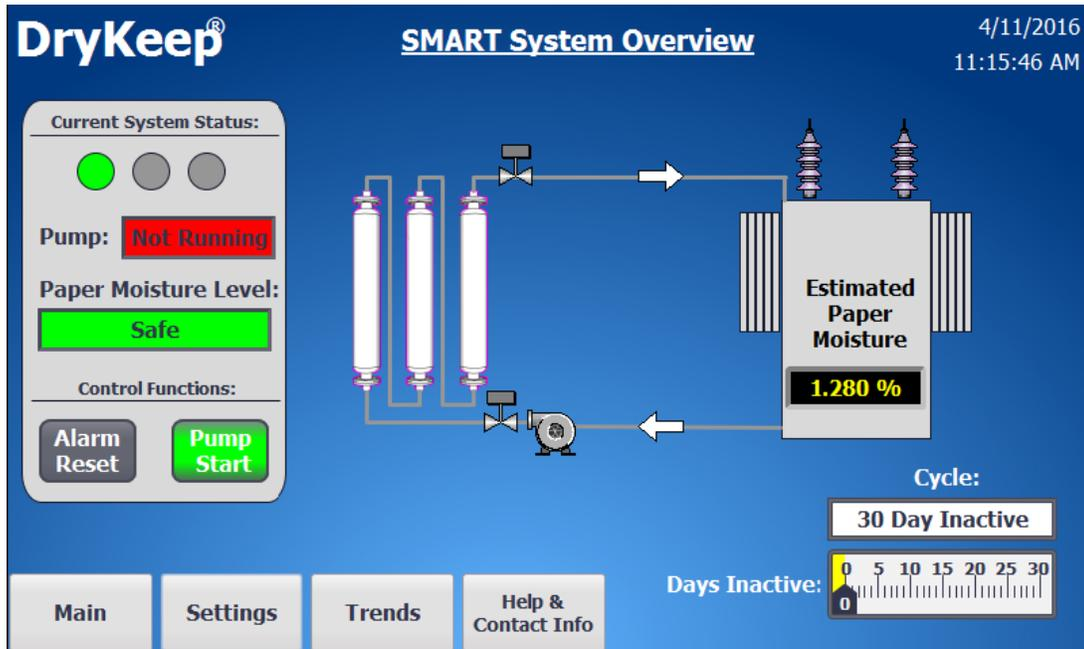

Figure 12: Main screen in 30 Day Inactive cycle
- 15) If the controller confirms during the Safe Level Pending cycle that the optimal percentage of moisture in the paper has been achieved, the controller will place the system into the “30 Day Inactive” cycle. The system pump will shut down for 30 days to prevent over-drying the paper. A counter is supplied under the cycle status to show how many days the pump has been inactive as shown in Figure 12.